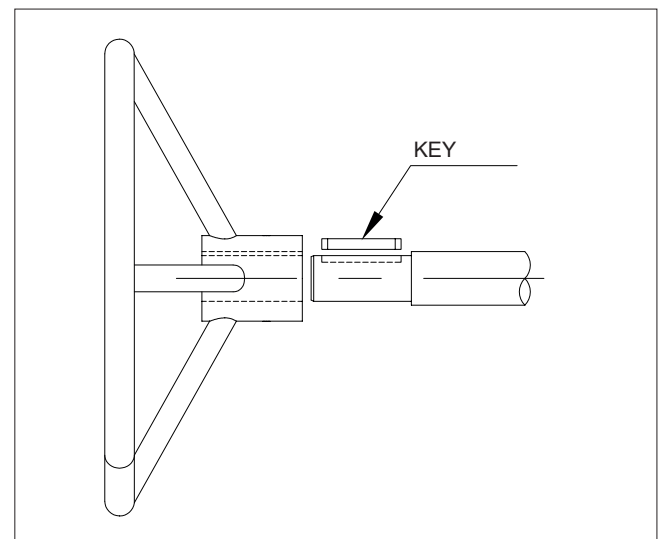
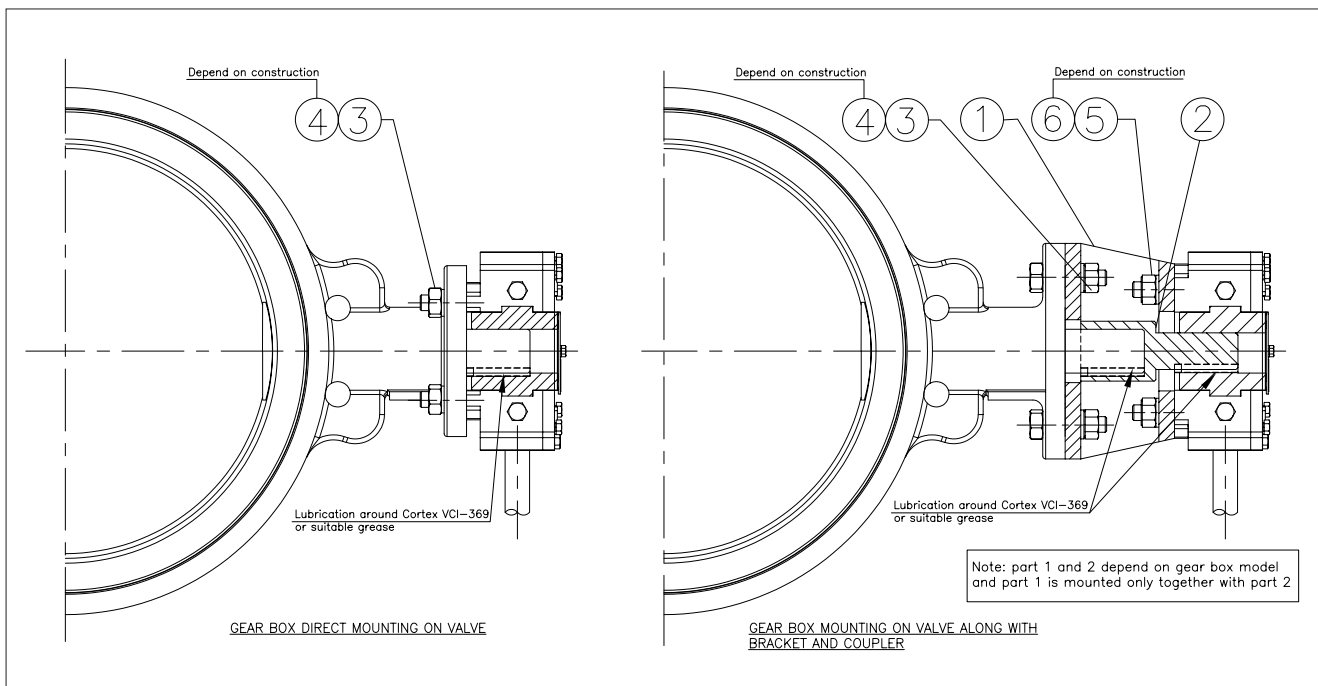

Fig. 1 Mounting handwheel
Fig. 2 Gearbox perpendicular to the valve
2. It is recommended to mount a handwheel on the input shaft before assembling the gearbox to the valve, Figure 1
7. Coat the valve stem and outer surface of the bushing (2) and actuator bore with a suitable grease to aid fitting. The plate (21) should be installed, when the bushing (2) is used, between the valve flange mounting face. This plate locks up the insert.
8. Mount the gearbox perpendicular to the valve (see Figure 2).